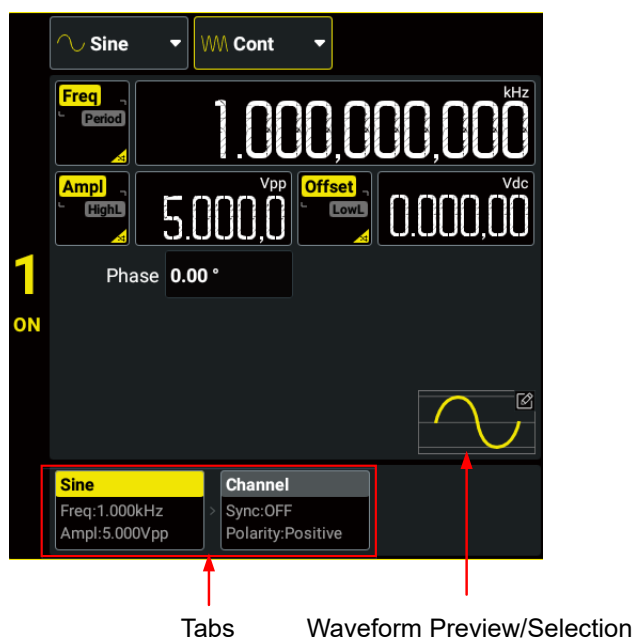

Figure 5.1 Continuous Setting Interface
- In the Continuous Setting Interface (*Figure 5.1*), click or tap the "Wave Type" drop-down button to select "Sine".
- In the Continuous Setting Interface (*Figure 5.1*), click or tap the "Waveform Preview/Selection" area and then click or tap **Built In Wforms** > **Sine**.
- In the Continuous Setting Interface (Figure 5.1), click or tap the "Wave Type" drop-down button to select "Square".
- In the Continuous Setting Interface (Figure 5.1), click or tap the "Waveform Preview/Selection" area and then click or tap **Built In Wforms** > **Square**.
You can also click or tap the "Channel" tab in Figure 5.1 interface to access the channel setup interface to configure channel output. For details, please refer to Channel Setup.
- In the Continuous Setting Interface (Figure 5.1), click or tap the "Wave Type" drop-down button to select "Ramp".
- In the Continuous Setting Interface (Figure 5.1), click or tap the "Waveform Preview/Selection" area and then click or tap **Built In Wforms** > **Ramp**.